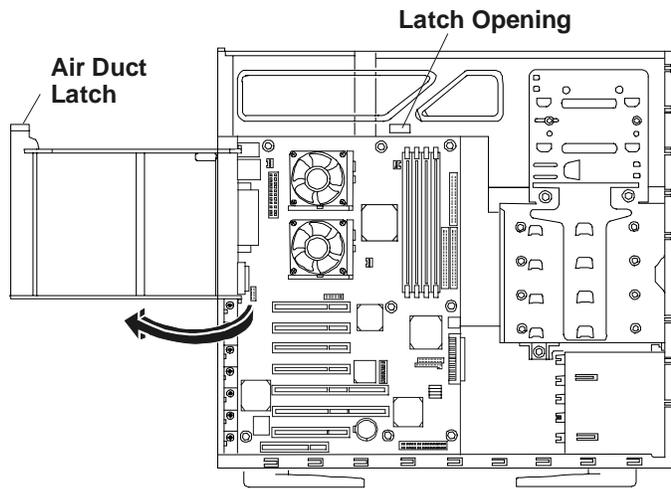

Figure 4-1. Opening the Air Duct
5. Unsnap the air duct and move it out of the way. See Figure 4-1.